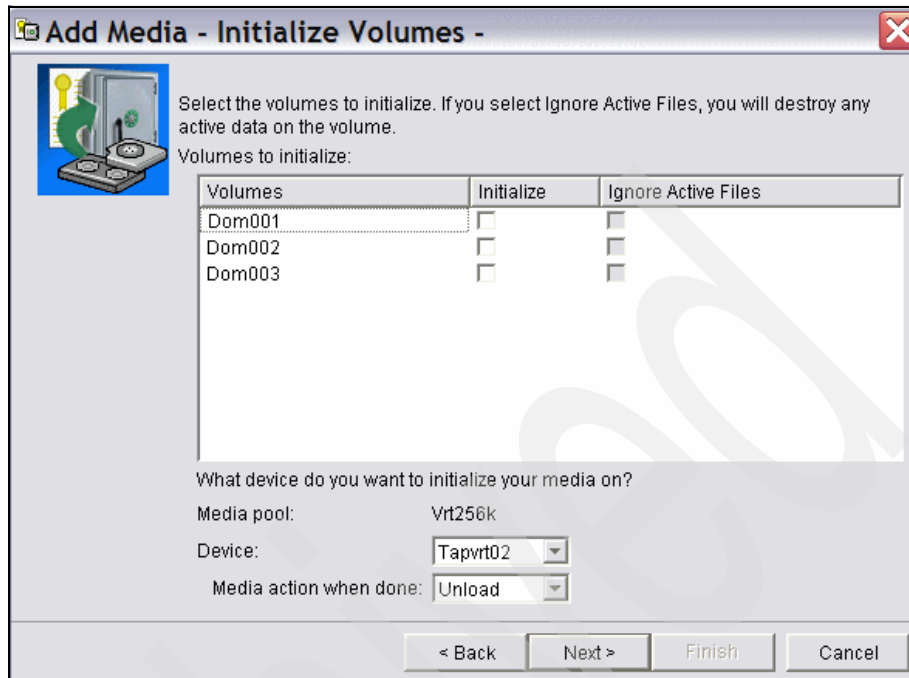

Figure 5-38 BRMS backup policy, initialize volumes
25. BRMS can initialize the volumes, if required. In this scenario, since this is already done, click **Next** in the Initialize Volumes window shown in Figure 5-38 on page 226.